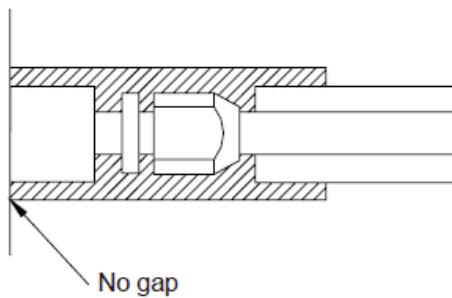

Figure 8: Insulating the Refrigerant Pipe
- The joints of the indoor unit should be wrapped with the insulation material. Ensure there is no gap is on the joint of the indoor unit, as shown in Figure 8.